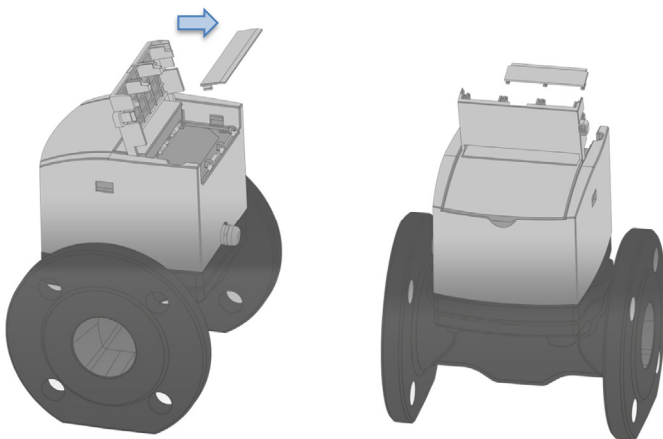

Fig. 29: Exchanging protective cover in order to add a new module
**Step 2:** Exchange protective cover on the module lid, see Fig. 29.
If additional NFC modules shall be added to the meter, the protective cover on the module lid needs to be exchanged. Remove the cover from the opened module lid by pulling it outward as shown in Fig. 29. Separate module covers for one or two slots are available. If one module shall be placed on the meter, the two remaining slots need to be covered. If two modules are placed on the meter, only one remaining slot needs to be covered. Connect the suitable protective cover to the module lid such that the NFC slots on which a module will be placed remain uncovered. The cover will click in place when pushed onto the module lid.